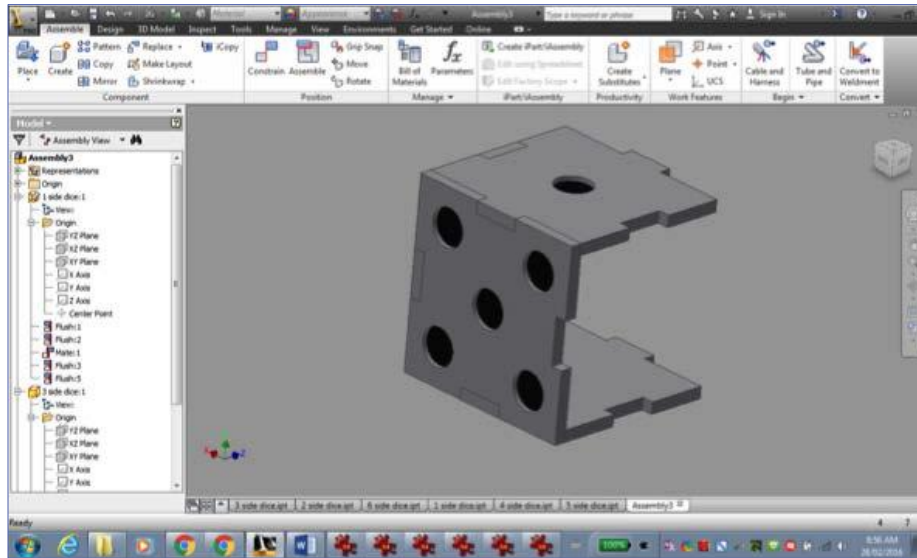

Figure 24
- Continue the process of constraining each part (Figure 24).